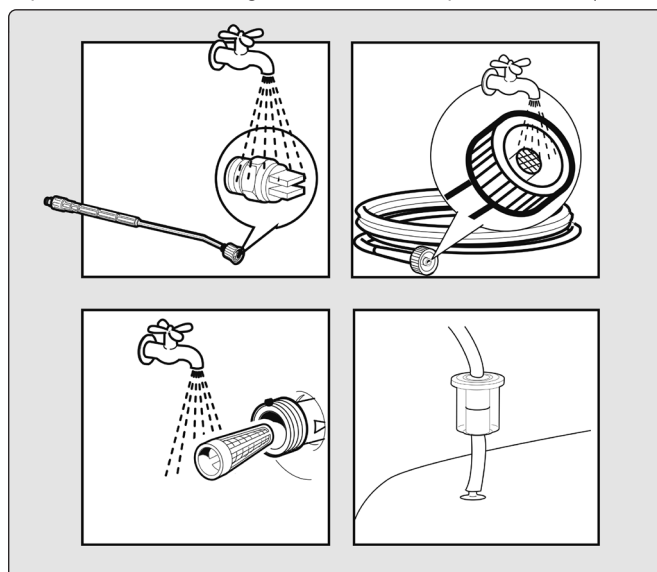

fig.11
7.1. CLEANING (fig.11)
7.3. CLEANING THE WATER FILTER (fig.11)
7.4. CLEANING THE NOZZLE (fig.11)
7.5. CLEANING THE FUEL FILTER (fig.11)